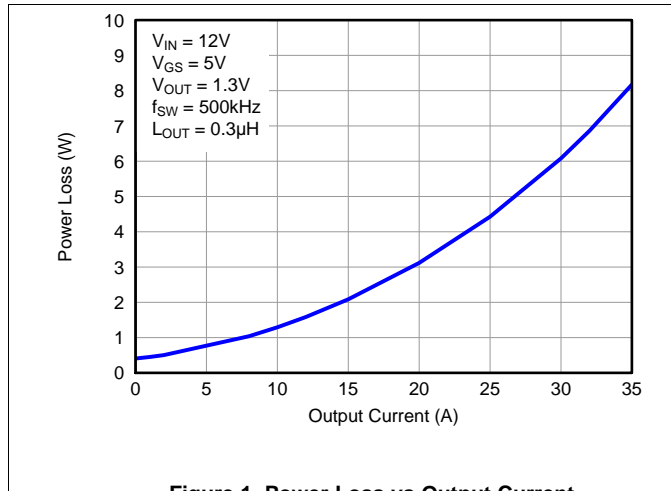

Figure 1. Power Loss vs Output Current
MOSFET centric parameters such as  $R_{DS(ON)}$  and  $Q_{gd}$  are needed to estimate the loss generated by the devices. In an effort to simplify the design process for engineers, Texas Instruments has provided measured power loss performance curves. Figure 1 plots the power loss of the CSD87351ZQ5D as a function of load current. This curve is measured by configuring and running the CSD87351ZQ5D as it would be in the final application (see Figure 32). The measured power loss is the CSD87351ZQ5D loss and consists of both input conversion loss and gate drive loss. Equation 1 is used to generate the power loss curve.
The power loss curve in Figure 1 is measured at the maximum recommended junction temperatures of 125°C under isothermal test conditions.
- Power loss at 25 A = 3.5 W (Figure 1)